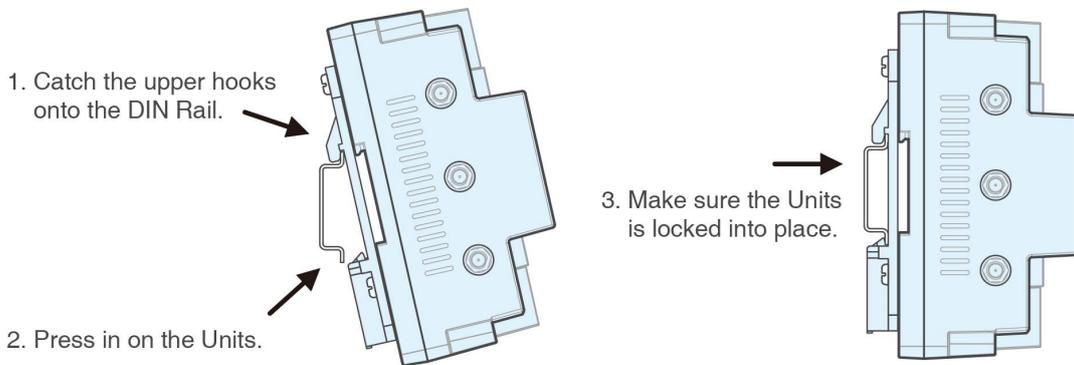

Figure 3-6 Mount the Units to the original 35mm DIN rail
- Snap the mounted units into the original 35mm DIN rail, as shown in **Figure 3-6** below.